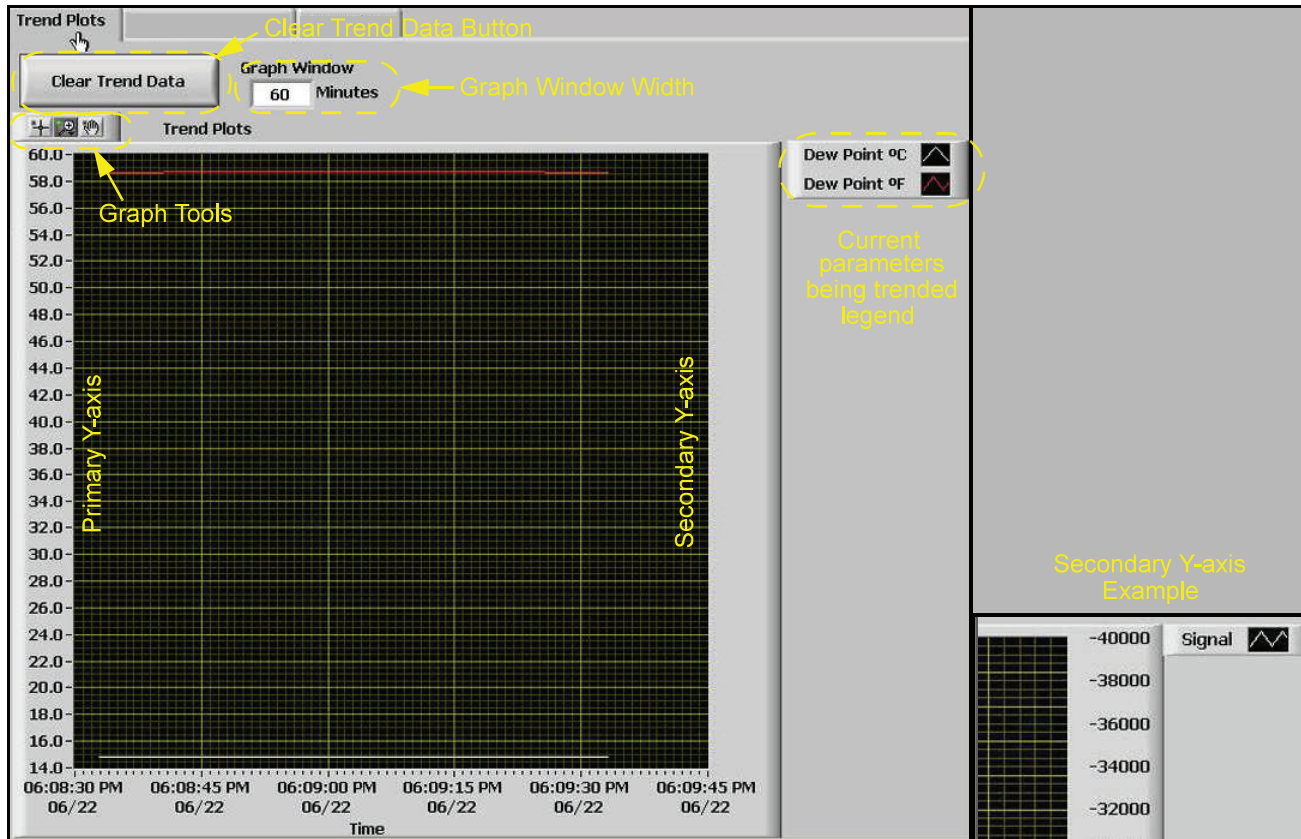

Figure 42: Using trend plots
1. Trend Plots is a powerful graphing feature in AuroraView. You can graph many parameters at the same time (see *Figure 42* below).